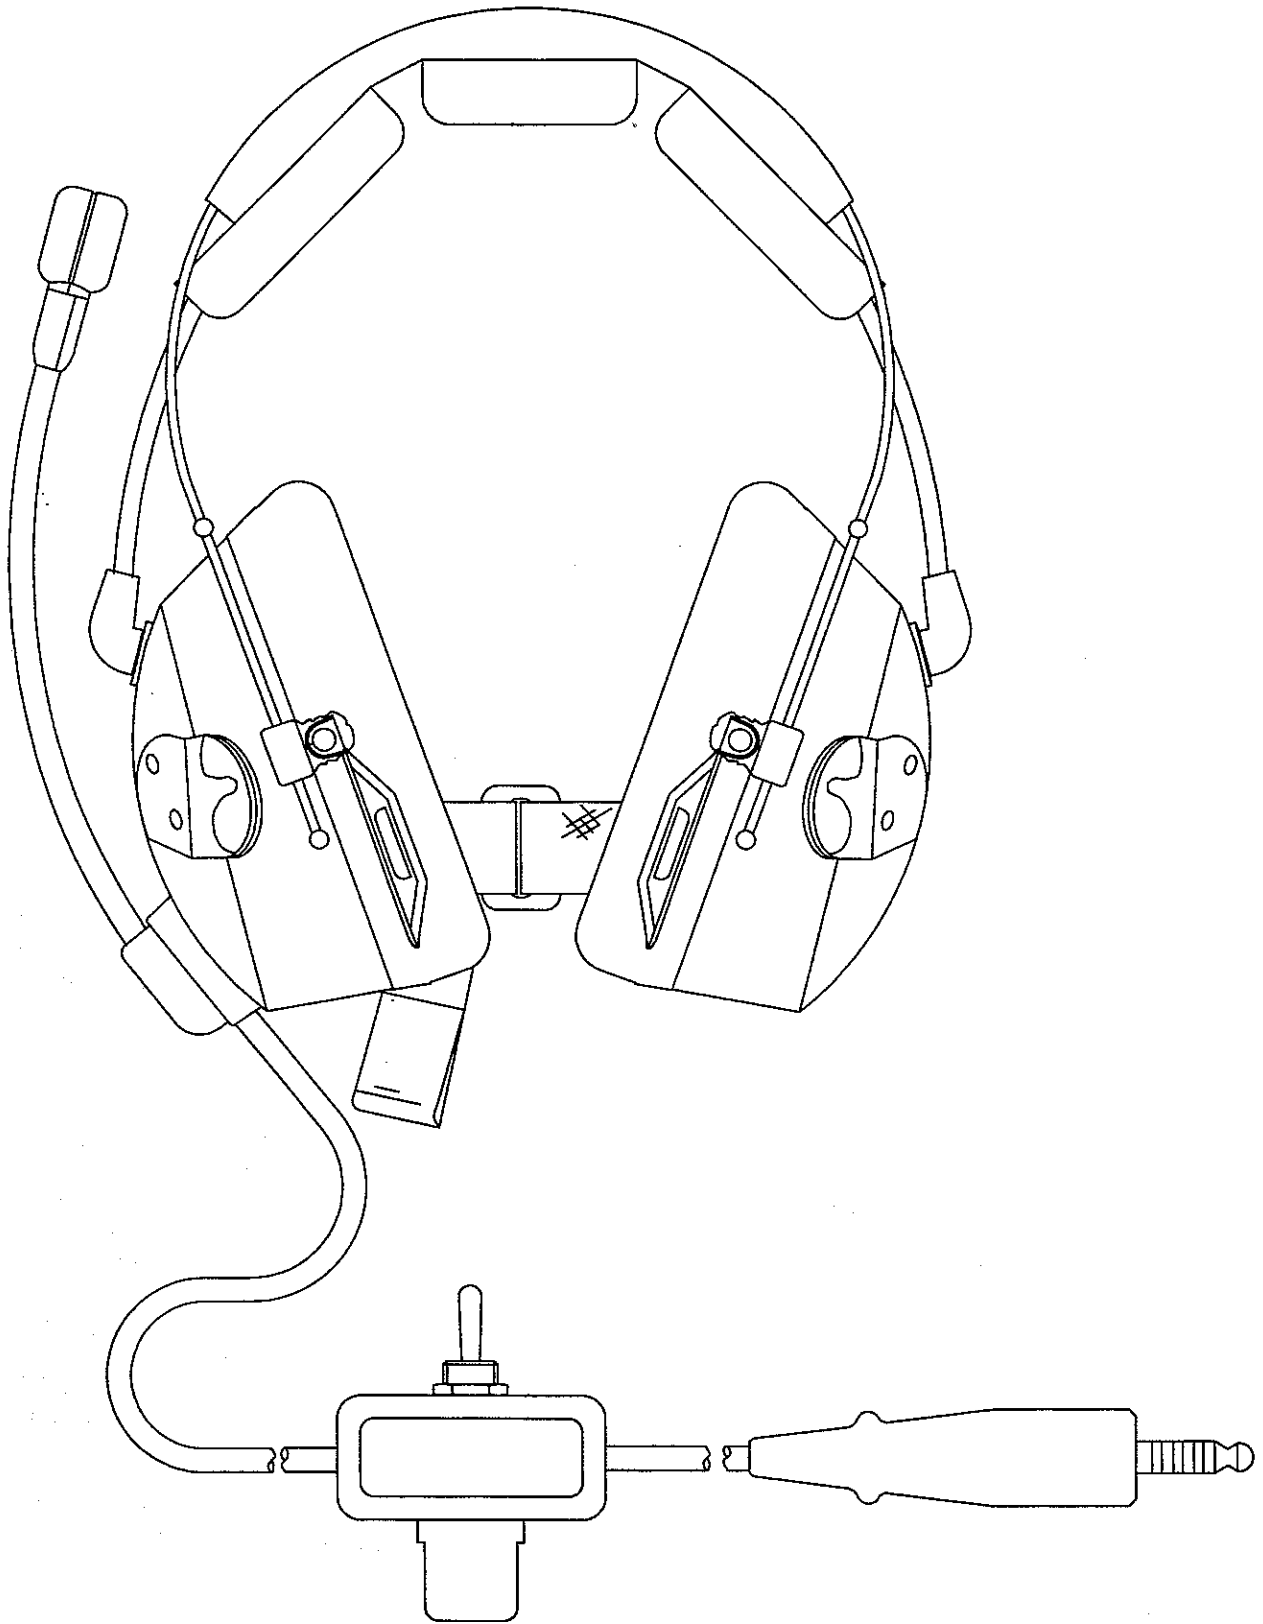

Fig 1 Headset, Supergard, 5965-99-584-1881
3 A general view of this headset and a wiring diagram are shown in Fig 1 and Fig 2 respectively. In the following paragraphs, numbers in brackets, e.g. (5), refer to items in Fig 3, Fig 4 and Fig 5.
- 23.2 Refer to Fig 1 and Fig 2. Insert the replacement main cable end into the earshell. Position the boom arm and the main cable on the earshell and fit the screws and seals. Tighten the screws until the seals are fully collapsed.